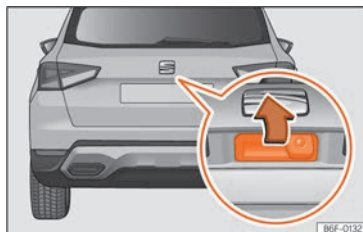

Fig. 58 Rear lid: opening from the outside.
- **Open:** place slight pressure on the handle. The rear lid opens automatically. >>> Fig. 58.